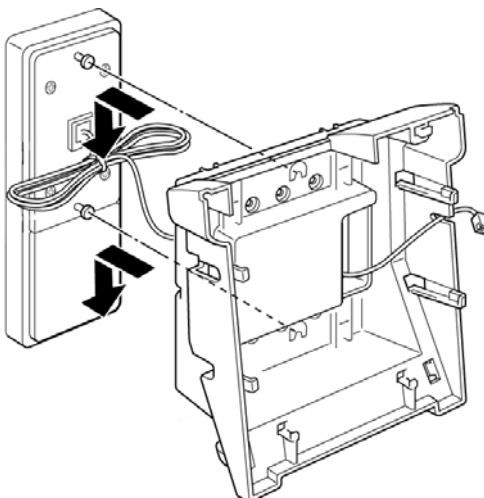

Figure 4-37: Mounting Wall Mount Unit on the Switch Box
1. Locate the screw holes on the wall mount unit and hang the cover over the screws on the switch box as illustrated in *Figure 4-37: Mounting Wall Mount Unit on the Switch Box*.